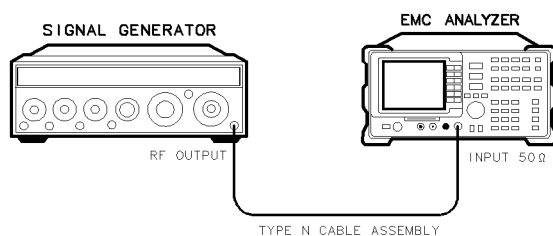

Figure 2-14.
1. Connect the equipment as shown in Figure 2-14.